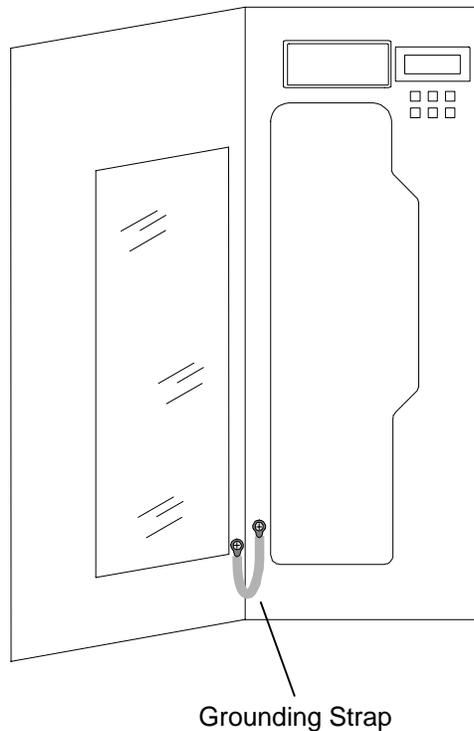

Figure 5-15 TLS Grounding Strap
1. Open the TLS' door and locate the grounding strap connected between the door and the lower-left corner of the TLS (Figure 5-15).
2. Touch by hand the head of the screw that connects the grounding strap and the lower-left corner of the TLS (Figure 5-15), to remove any static charge that may exist. Then load, move, or remove the desired data cartridges and magazines as described in Section 5.9.2 and Section 5.10.